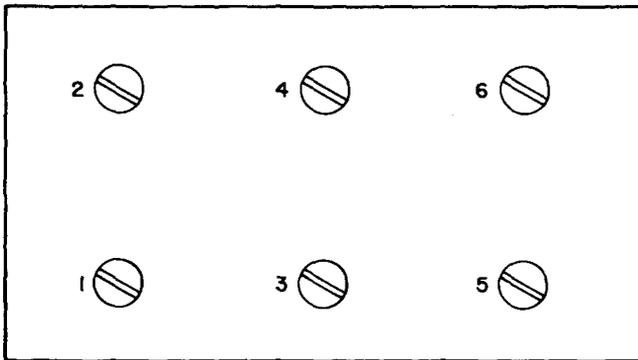

Fig. 5—Terminal Designations for 60A1A-3 Connecting Block
2.11 Connections to the three 60A1A-3 connecting block terminals should be made as shown in Table A. The blocks are placed on the apparatus case so that block A is on the left, facing the front, and block C is on the right. Figure 5 shows the terminals and their designations.